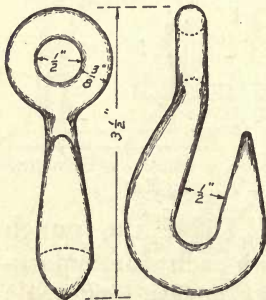

FIG. 194.—COMPLETED HOOK.
5. Bending the hook. — Bend the hook as in Fig. 194. Remember that the middle point of the bend must be opposite the eye of the hook.